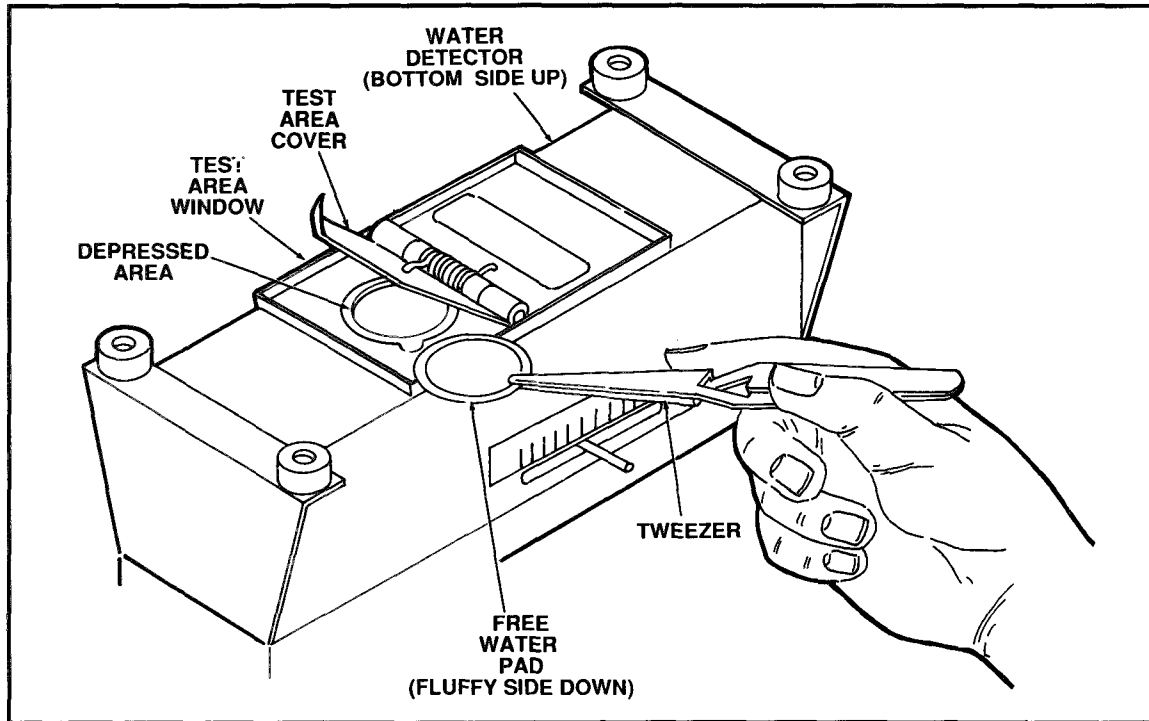

Figure 2.36 Placement of Free-Water Pad in Test Area Window
- c. Test for undissolved water level: open the test area cover located on the bottom side of the water detector. Place the free-water pad (orange-side down) in the test area window (see Figure 2.36.) Close the cover and turn the water detector upright.